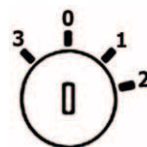

Fig. 83A
1. Flashing hazard lights toggle switch; 2. Not assigned; 3. Parking and Headlights toggle switch; 4. Cab heater toggle switch; 5. Not assigned; 6. Ground toggle switch; 7. Key Switch - Fig. 83A.
- turn the key clockwise to position 2 - Fig 83A, page 107